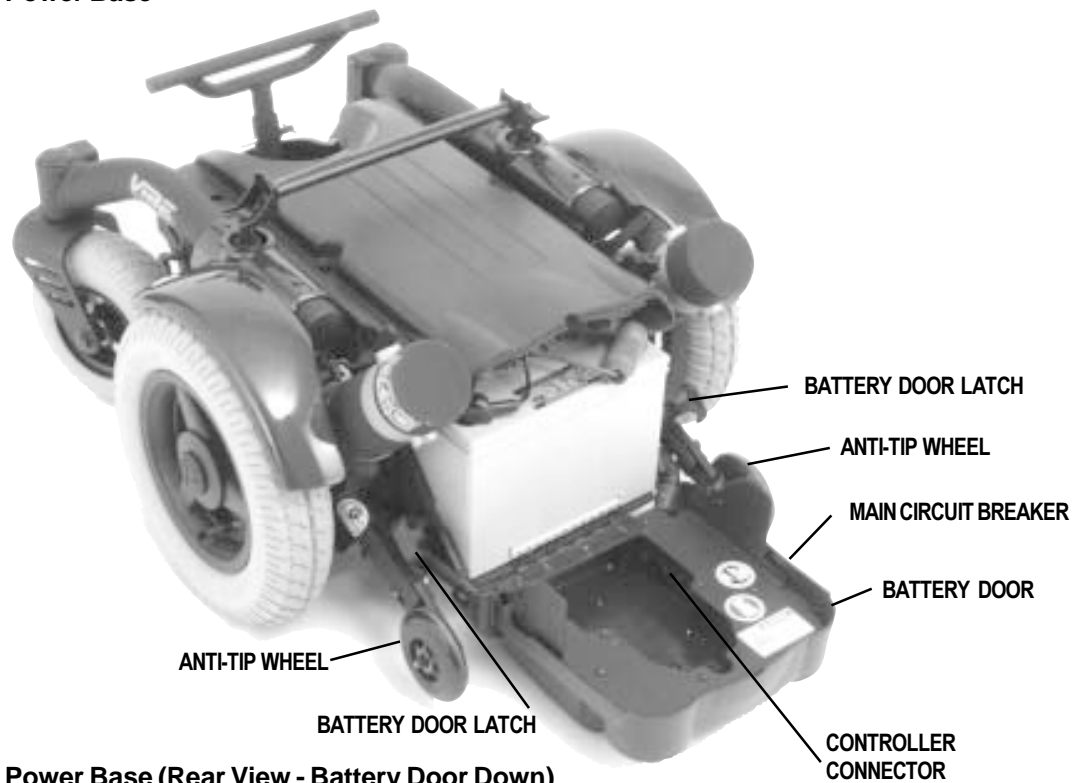

Figure 5. The Vibe Power Base (Rear View - Battery Door Down)
The electrical components are located on the battery compartment door at back of the power base. See figure 5.
6. Pull the battery door straps and open the battery door. See figure 5.
7. Plug the controller cable into the connector. See figure 5.
3. Disconnect the two battery door latches from the battery door. See figure 5.
4. Open the battery door and disconnect the controller. See figure 5.